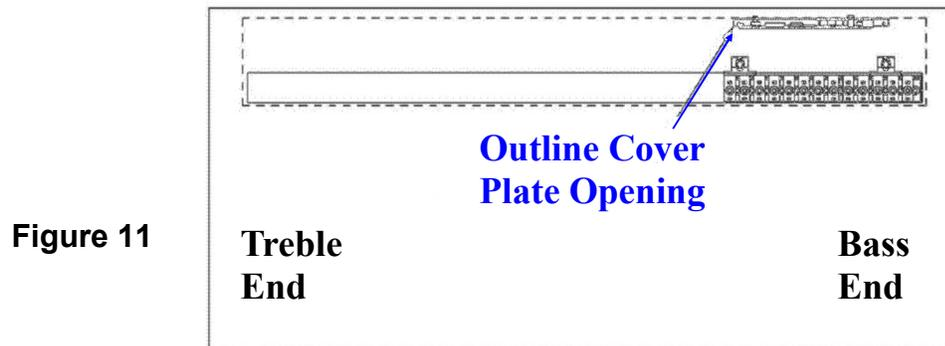

Figure 11
- C. Using a pencil, out-line the complete perimeter of the rail cover. Also mark the cover plate opening. This will aid in locating position for the cover plate. (See Fig. 11)